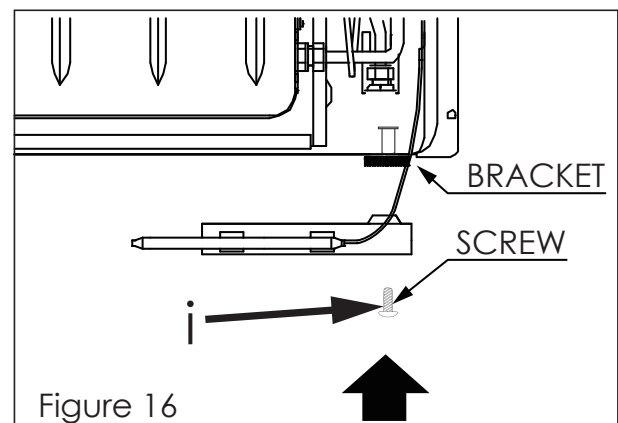

Figure 16
2. Place the thermostat sensor under the right bottom of the bracket and attach it with the provided medium screw (i) that fixes the appliance to the bracket as shown in figures 16 and 17.